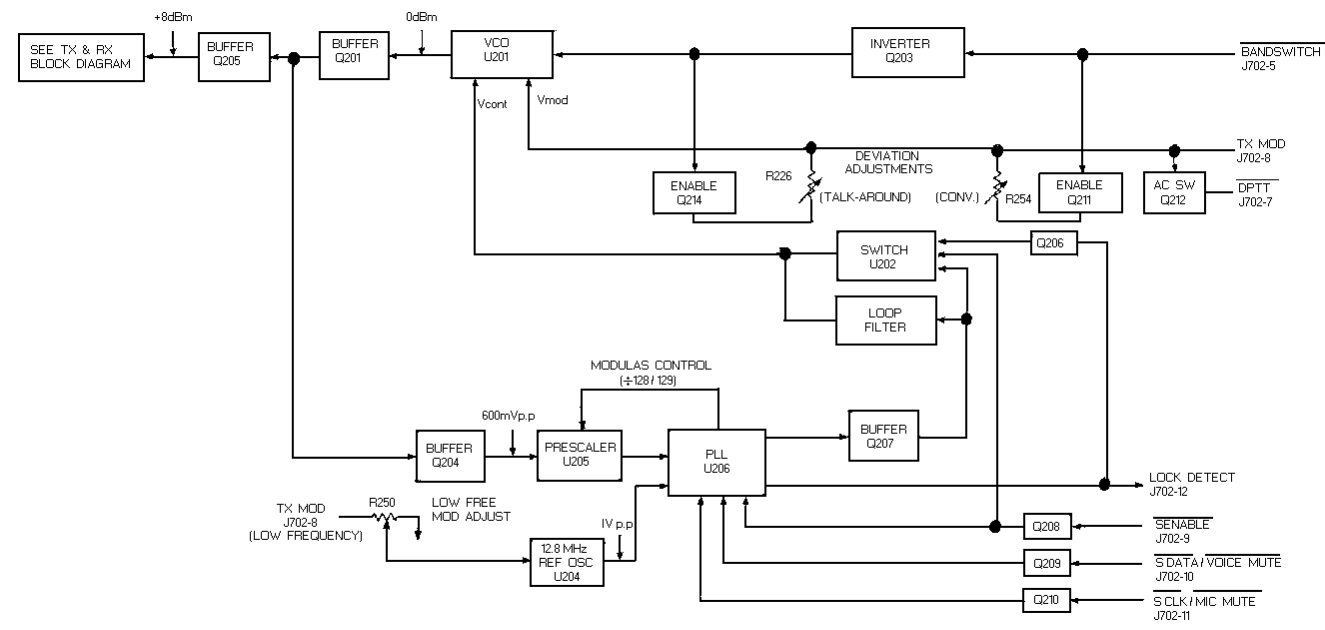

Figure 1 - Synthesizer Block Diagram
The synthesizer generates all transmit and receive RF frequencies for the mobile radio. A block diagram of the frequency synthesizer circuit is shown in Figure 1. When the radio is transmitting, this phase-locked synthesizer circuit locks the VCO on to the actual transmitter's frequency. The VCO's signal is buffered by two (2) common-emitter amplifier circuits and applied to the exciter module. The drive from the VCO ranges from 806.0125-824.9875 MHz when the radio is transmitting on a standard trunking channel (806.0125-824.9875 MHz). When the radio is receiving (851.0125-869.9875 MHz), the synthesizer operates 45 MHz below the receiver's frequency. This provides the required low-side injection for the superheterodyne receiver.